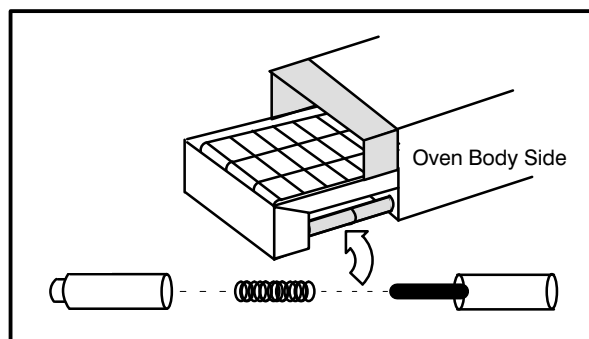

FIGURE 7
1. Compress the spring by hand to engage the tensioner pin with the hole in the oven's body side. (Refer to FIGURE 7).